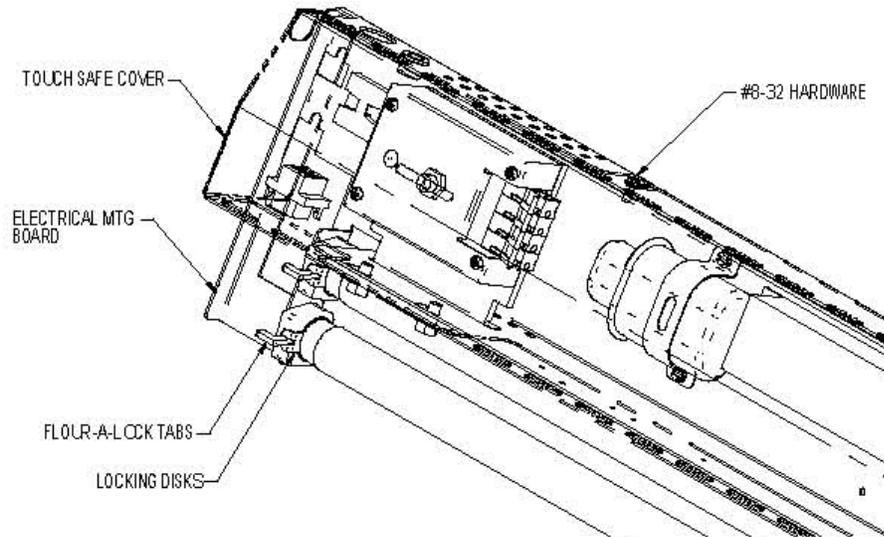

Fig. 3
- 4) Remove *FLUOR-A-LOCK* tabs (2) from the lamp sockets located on the left side of the fluorescent lamps. (Fig. 3) Using both hands, grasp the lamp carefully near each end and rotate it approx ¼ turn until the lamp is no longer seated in the lamp sockets. Slide each end out of the sockets. Repeat the process for removing the second lamp and dispose of them properly.
- 5) Install new lamps by following step 4 in reverse order. Make sure that the locking disks are installed on one end of each lamp and that the *FLUOR-A-LOCK* tabs are inserted properly. (Fig. 3)